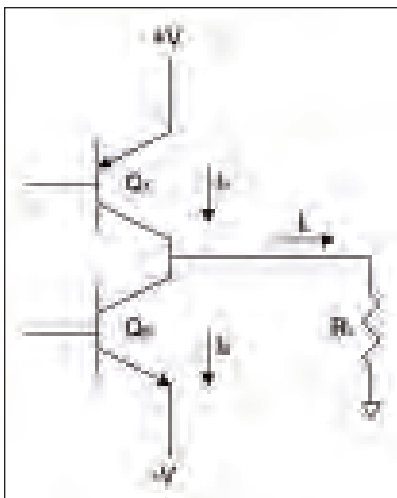

Figure 1: Basic amplifier output stage.
Figure 1 shows an amplifier output stage. A resistor (RL) is the load. However, real loads are loudspeakers, and present a reactance – not a pure resistance – to the amplifier's output.
Also note that the active devices in Figure 1 are shown as bipolar transistors. This is not always the case, although the majority of amplifiers are still outfitted with such devices due to their maturity and low cost. MOSFETs and vacuum tubes are examples of alternate output power devices.
Figure 1 also depicts a half-bridge topology, with bipolar power supplies. Other variations exist, such as bridging, which drives both sides of the load using two output stages for double the effective output voltage swing.
*Class-B* topology is the simplest to explain. Refer again to **Figure 1** – QT and QB are used to direct current from the voltage rails (+V and -V) into, or out of, the load. A drive circuit controls the transistors.